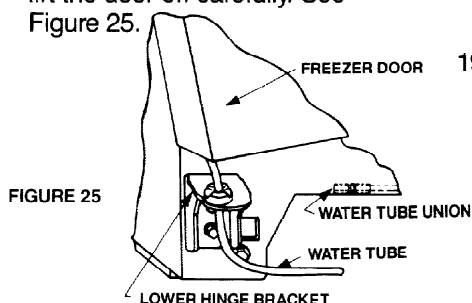

FIGURE 25
12. The freezer door water line will thread through the bottom hinge; lift the door off carefully. See Figure 25.